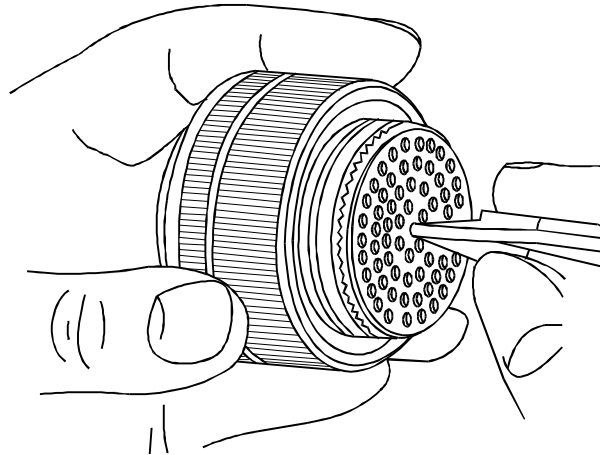

Figure 1-43
6. Keeping the contact and tool centred in the hole, apply smooth even pushing pressure until the contact is seated. A faint audible snap will be heard when the contact seats, as Figure 1-43 illustrates.